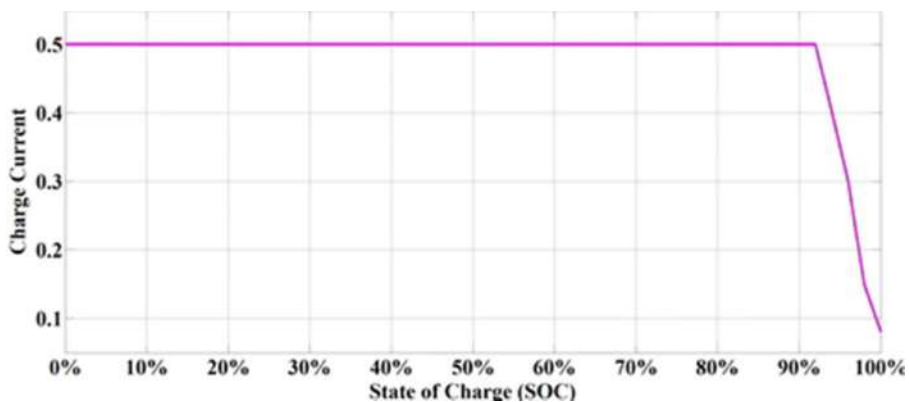

Figure 4: Charging curve of a LiFePO₄ Battery (Charging current Vs SOC).
- **Constant current charge:** In the first stage of charging, the current is kept constant at a charge rate of 0.5C as shown in Figure 4, indicating that the Battery will get charged at a charge rate of half of its capacity. In the charging voltage of the Battery will